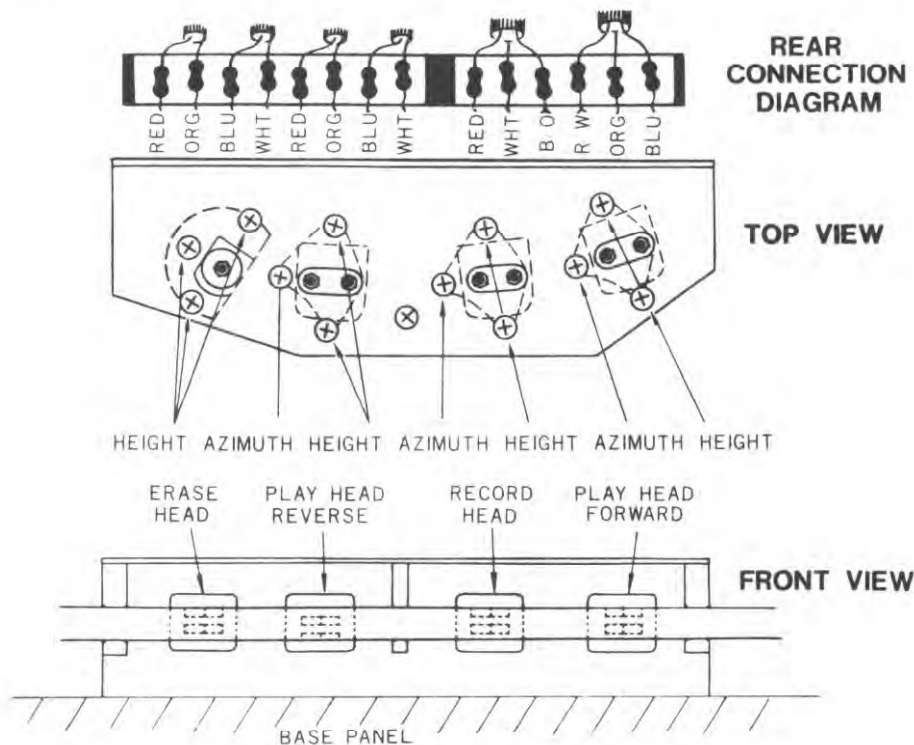

FIG. 7 HEAD ASSEMBLY
2. Locate the wires from the defective head and note the points to which they are soldered. Refer to Figure 7.
7. Head height is adjusted at the factory to very critical tolerances. Normally head replacement would not disturb the height adjustment. If highly critical adjustment is required, refer to Figure 7. Adjustment is made with the 3 screws holding the head plate to the top plate.
5. Play a 12 or 15 KHz tone and turn azimuth adjustment screw (Figure 7) of the forward playback head until a maximum peak is obtained on the VTVM.
6. Depress the  button and turn azimuth adjustment screw (Figure 7) of the reverse playback head for maximum peak on the VTVM.
2. While recording a 15 KHz signal on the tape, set the LINE input control so the VTVM reads -15 to -20dB below normal operating level. Adjust the record head azimuth screw (Figure 7) for maximum output.